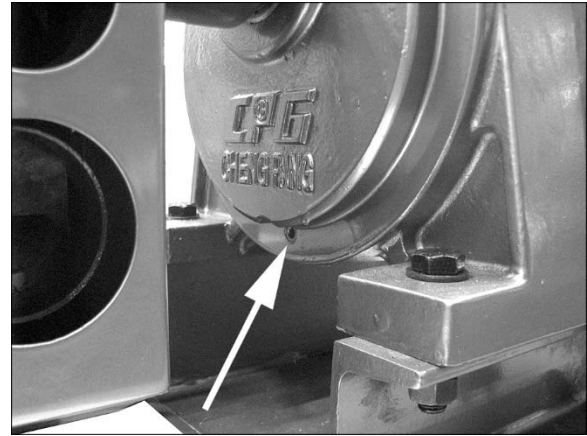

Figure 8-1: oil drain
1. It is recommended that the oil be replaced every 2,500 operating hours. Remove set screw to drain (Figure 8-1).